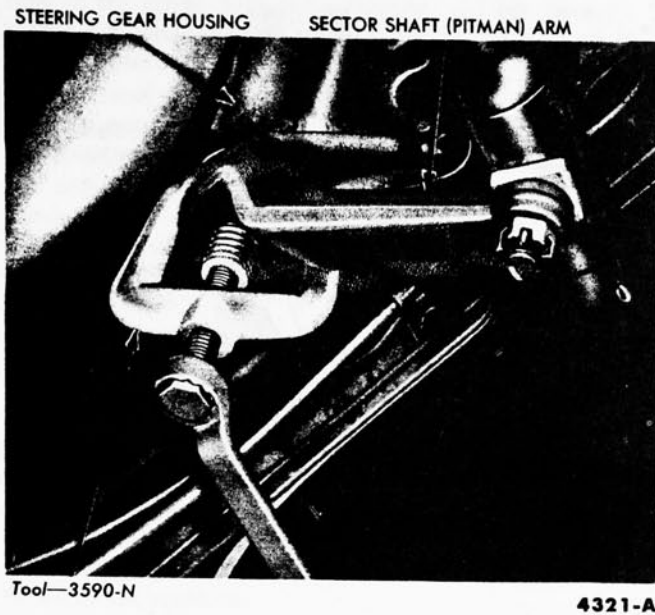

FIG. 5—Sector Shaft Arm Removal
11. Raise the front of the car to provide working room (See Part 6-4 for hoisting and jacking instructions), and remove the sector shaft arm, using the tool shown in Fig. 5.